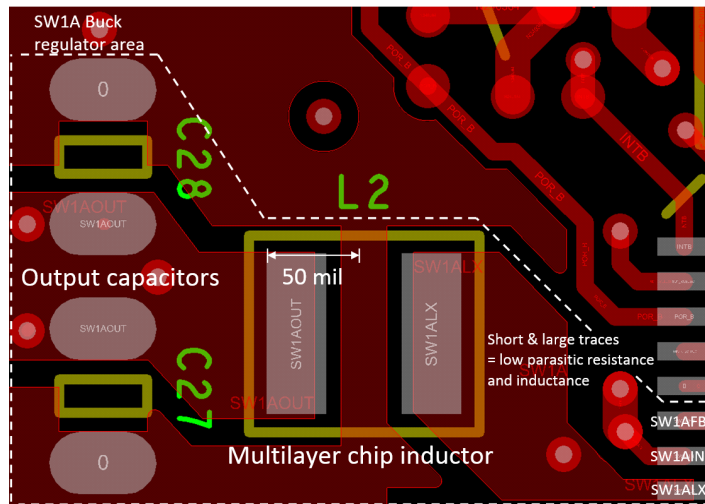
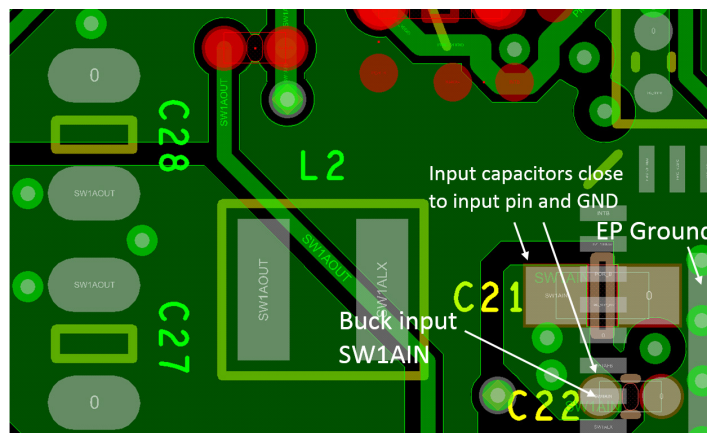

Figure 4. SW1A layout - top layer components + top silkscreen
Figure 5. SW1A layout - top + bottom layer components and silkscreen
The top and bottom MOSFETs are integrated within the package in the buck regulators of the PF3000. Placement of the input capacitor close to the SWxIN pin and the exposed pad (EP) is critical. Figure 4 and Figure 5 show an example layout for the buck regulators.